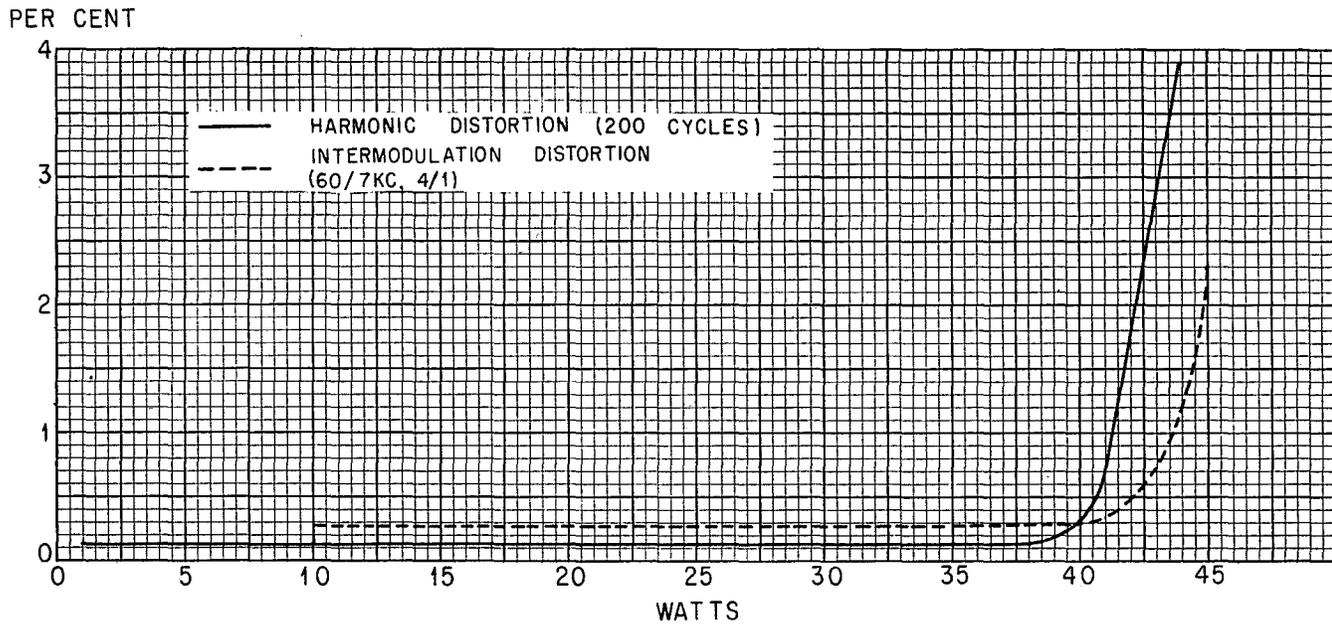

Fig. 3
2.02 The internal impedances of the McIntosh A-120 Amplifier are shown in Tables 2 and 3. Typical performance characteristics of this amplifier are shown in Fig. 3. An input selector switch is mounted on the chassis of the amplifier and must be positioned properly.